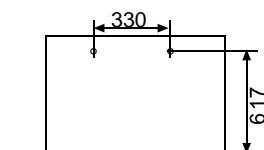

Fig2
- According to the dimension of the figure 2 shown, nail two cement steel nails on the wall,Keep 2~3mm out.then hang the back of the unit on them.